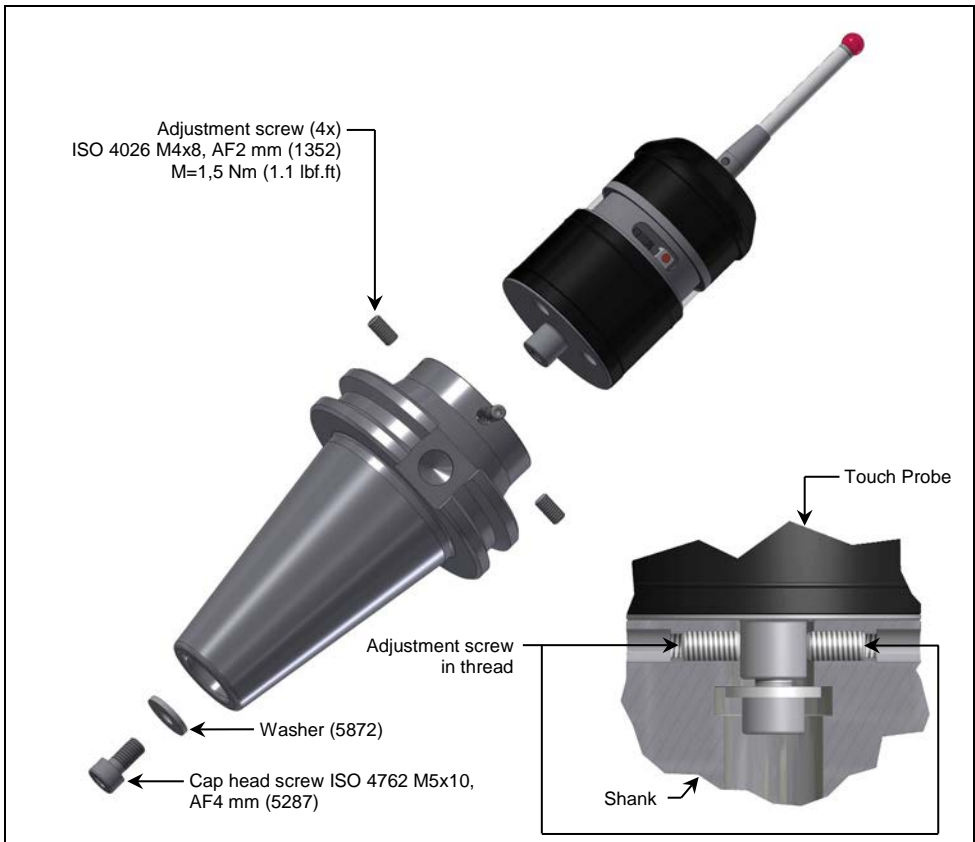

Fig. 6 Mounting/dismounting the shank
- 1.1 Loosen all 4 adjustment screws (refer to Fig. 6) using a hexagon key AF2 mm.
- 1.2 Unscrew the cap head screw (refer to Fig. 6) from the top of the shank using a hexagon key AF4 mm.
- 1.1 Unscrew the 2 clamping screws (refer to Fig. 6) using a hexagon key AF4 mm.
- 1.3 Loosen all 4 adjustment screws (refer to Fig. 6) using a hexagon key AF2 mm.
- 1.4 Unscrew the mounting screw (refer to Fig. 6) from the top of the modular adapter using a hexagon key AF4 mm.